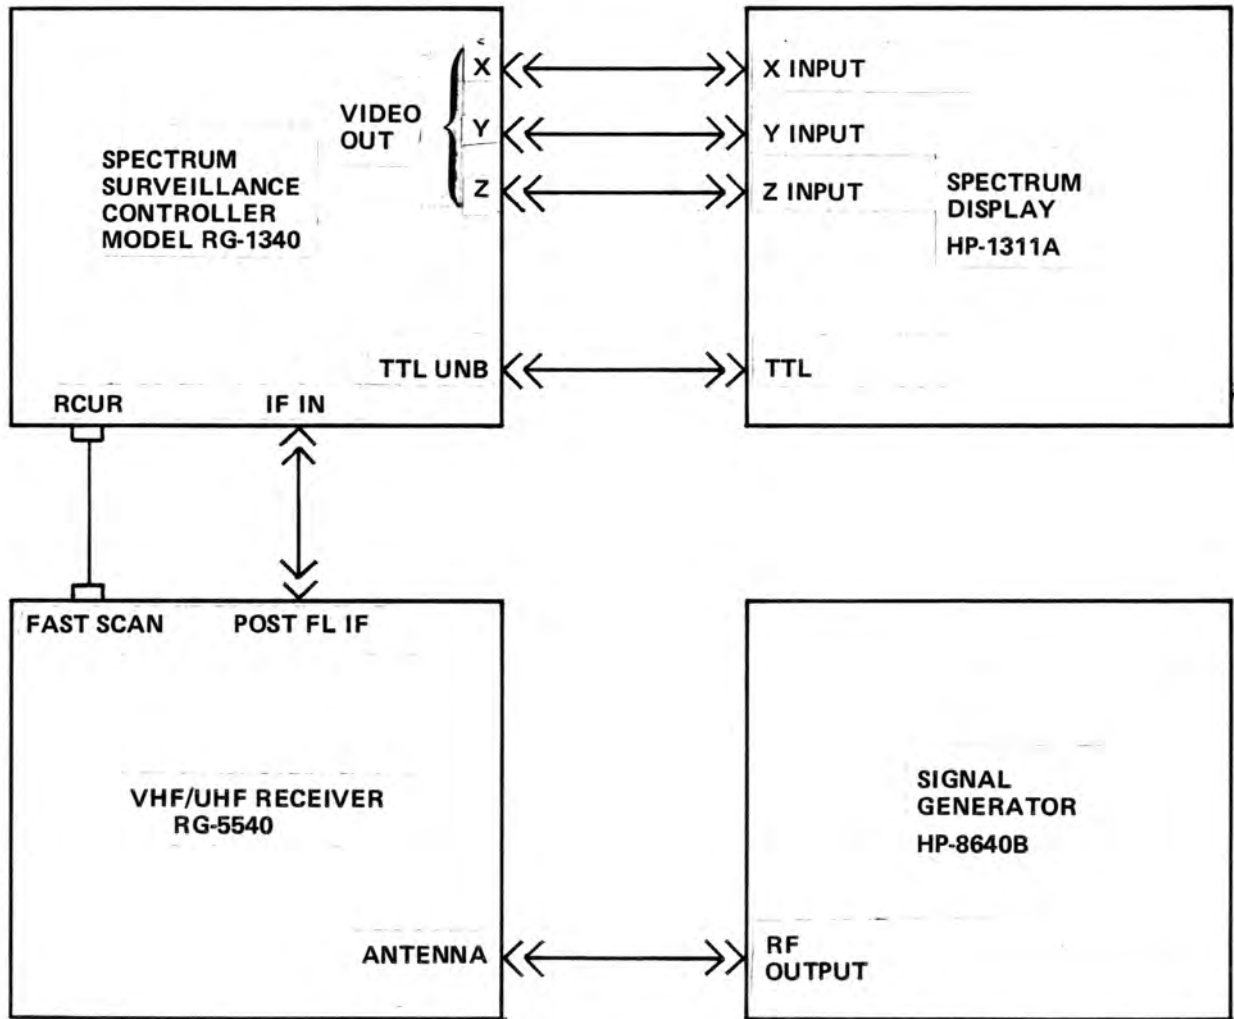

Figure 5-8. Fast Scan Mode Test Set-up
1. Connect the test setup with the Spectrum Surveillance Controller RG-1340, Spectrum Display HP-1311A, Signal Generator and the Receiver as shown in Figure 5-8.